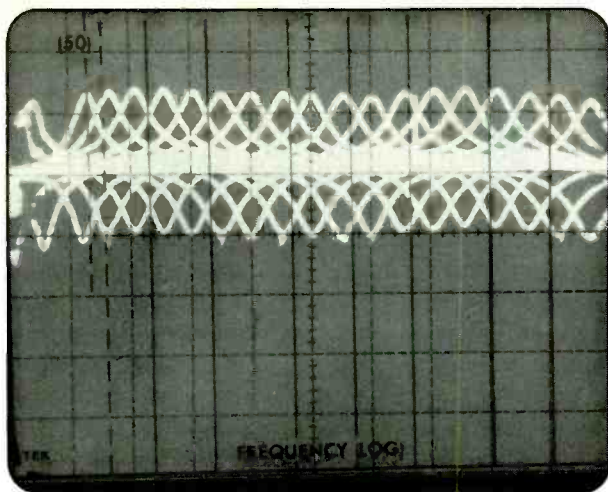

Fig. 1: Roland GE-810: Composite plot of boost and cut range of each of the twenty-one controls.
**Test Results:** The Roland GE-810 met or exceeded all of its published specifications in our tests. Drawing a mere 5 watts of operating power from the line, it produced its requisite half-octave cuts and boosts as anticipated. Figure 1 is a spectrum analyzer plot of the range of each slider control when the range selected was  $\pm 12$  dB. Each vertical division in this display is equal to 10 dB of amplitude change. Center frequencies were very nearly precise, and the seeming disparity in the spacing of the center frequencies at the very low end of the band was a function of the spectrum analyzer's own nonlinearity in that region, and not a flaw in the GE-810.